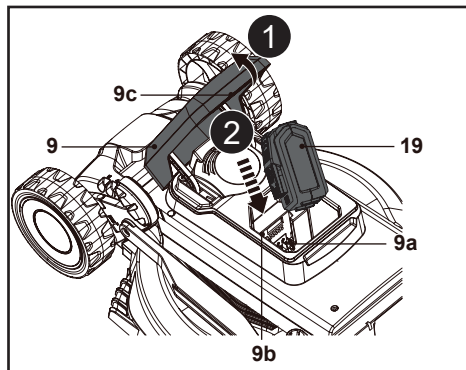

Fig. 6
1. Hold the recess handle (9c) and open the battery compartment cover (9) (Fig. 6, step 1).
2. Align the battery pack (19) with the sliding slots (9b) and slide the battery pack (19) in to attach it (Fig. 6, step 2).